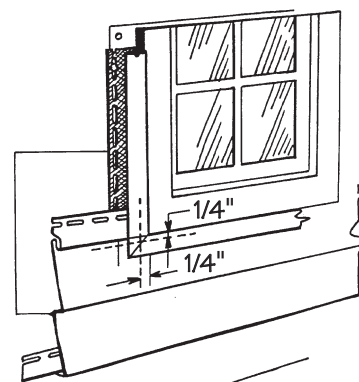

Figure 38.
- Hold the panel under the window and mark the width of the window opening on the panel. Add approximately 1/4" to both sides to allow for expansion and contraction of the siding. These marks represent the vertical cuts (Fig. 38).